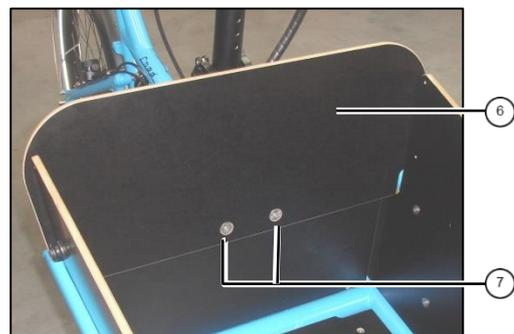

Fig. 3: Cargo back wall
3. Stick countersunk screws ① into washers ②. Stick countersunk screws through the side wall holes ③ and turn them loose into the front frame.
4. Adjust side walls and tighten all eight countersunk screws ①.
5. Install Cargo back wall ⑥ with countersunk screws ⑦ (see fig. 3).